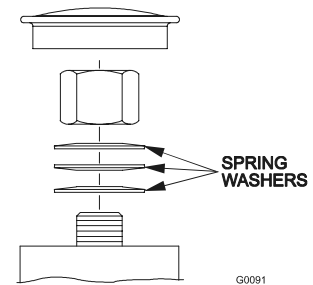

FIGURE 14
- a) Remove dust cap from caster and tighten nyloc nut until washers are flat and back off 1/4 of a turn to properly set the pre-load on the bearings. If disassembled, make sure the spring washers are reinstalled as shown in Figure 14.